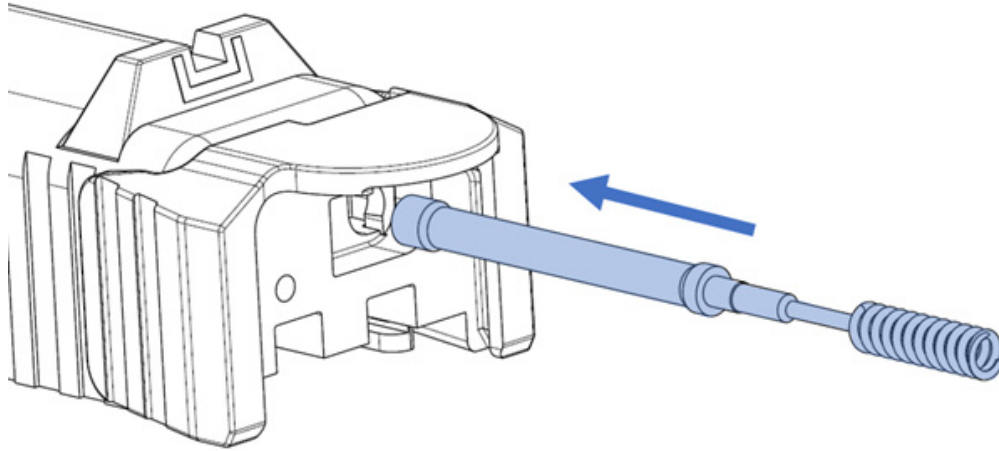

Figure 28: Direction to follow to insert the RISCpro Extractor Plunger Assembly.
5. Insert the RISCpro Extractor Plunger Assembly into the Extractor housing (Figure 28).